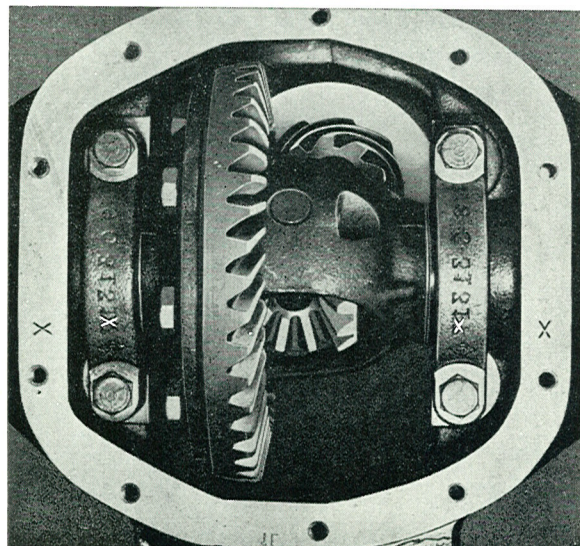

Fig. 4-94. Alignment marking on cap and carrier
5. Check the alignment markings on the cap and carrier, see Fig. 4-94. If there are no markings, or if they are difficult to see, mark one side with a punch. Remove the cap.